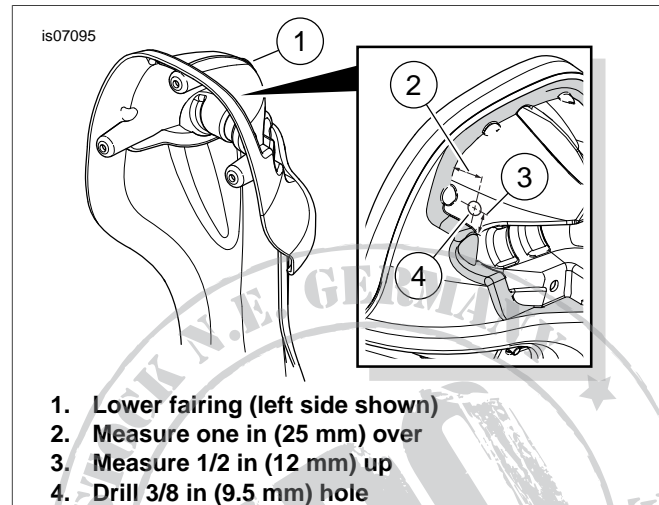

Figure 4. Drill Speaker Wire Hole in Lower Fairing
- Remove the glove box, door and tether (F) from the lower fairing (E) per the disassembly instructions in the service manual. Keep the screws (J).
- Remove the vent door (H) from the glove box, making note of the order and orientation of the attaching parts.
- Install the vent door onto the **new** speaker housing (4) from **this** kit with the attaching parts in the same order and orientation as just removed. Tighten the locknut (I) per service manual instructions.
- See Figure 4. In the upper part of the fairing (1), measure about 1.0 in (25 mm) over (2) and 0.5 in (12 mm) up (3) from the lower fairing cap mating flange (shaded area), and drill a 3/8 in (9.5 mm) hole (4) in the glove box inboard side wall.